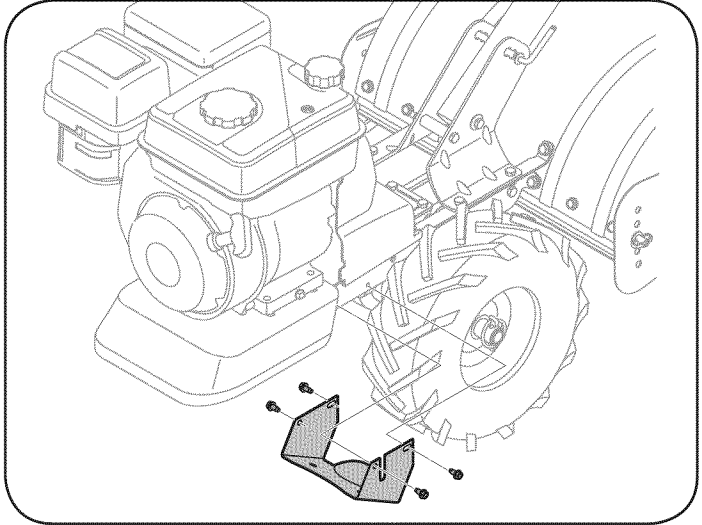

Figure 24
3. Remove the four 1/4-20 self-tapping hex screws that secure the pulley shield to the frame and remove the pulley shield and set aside in a safe location until reinstallation. See Figure 24.